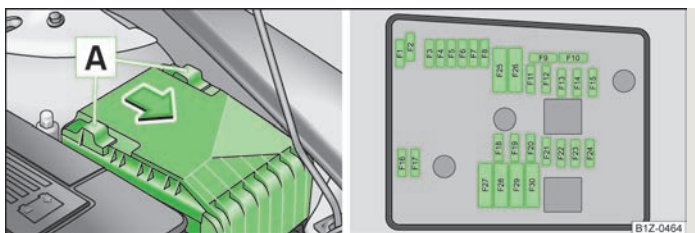

Fig. 162 Fuse box cover in engine compartment/Schematic diagram of the fuse box
- The cover for the fuse box is removed by pushing the circlips **A** » Fig. 162 upwards as far as the stop. The symbol is displayed behind the clip. Now remove the cover.